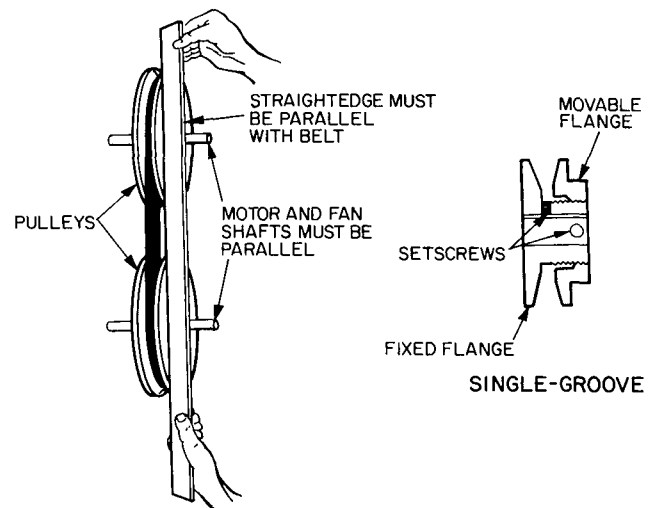

Fig. 29 – Evaporator-Fan Pulley Adjustment
3. Loosen movable pulley flange setscrew (see Fig. 29).